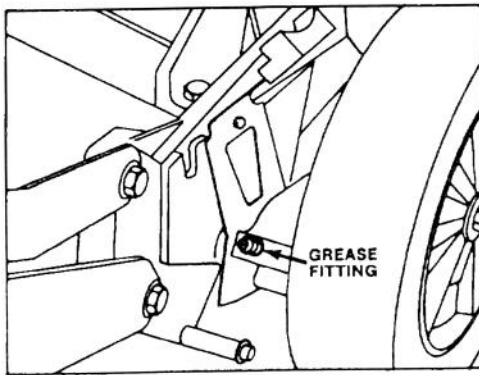

Figure 23
2. Model 20675 only—Move rear wheel height-of-cut levers to "C" setting. Wipe grease fittings with clean rag (Fig. 23). Install grease gun onto fitting and gently apply 2 or 3 pumps of #2 Multi-Purpose Lithium Base Grease. Excess pressure may damage seals.